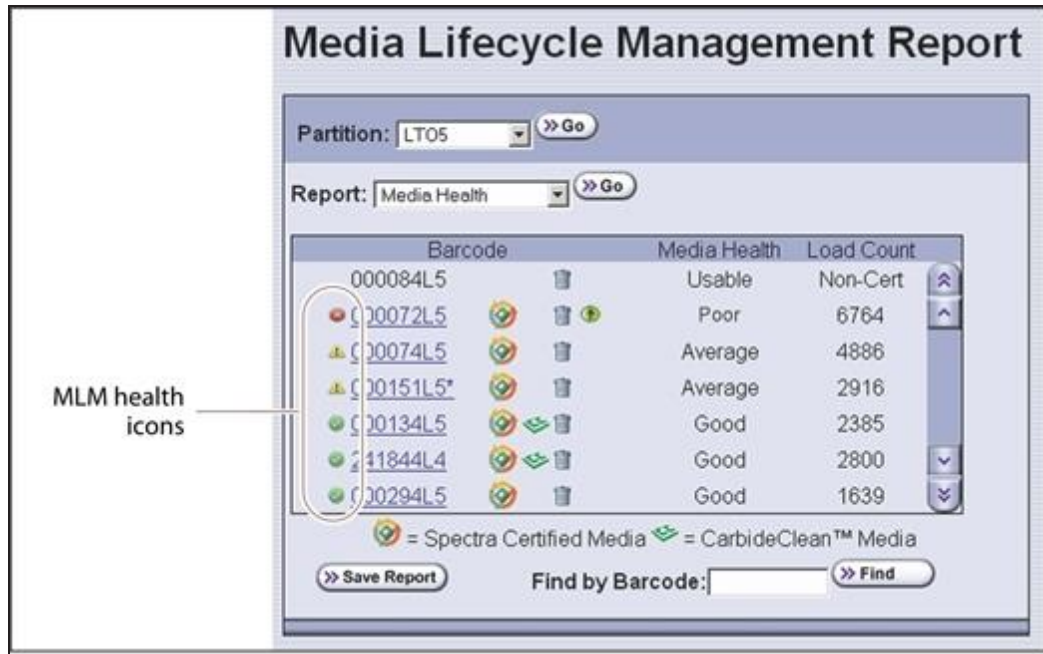

Figure 182 Use the health icons on the Media Lifecycle Management Report screen to quickly assess media health.
4. Click **Previous** to return to the main Media Lifecycle Management Report screen (Figure 182 on page 338).
Report Selected Data	<p>Only the fields displayed in the report that you selected on the Media Lifecycle Management Report screen (Figure 182 on page 338).</p> <p>Note: The headings in the saved report reflect the fields displayed in the report you selected in the Media Lifecycle Management Report screen.</p>